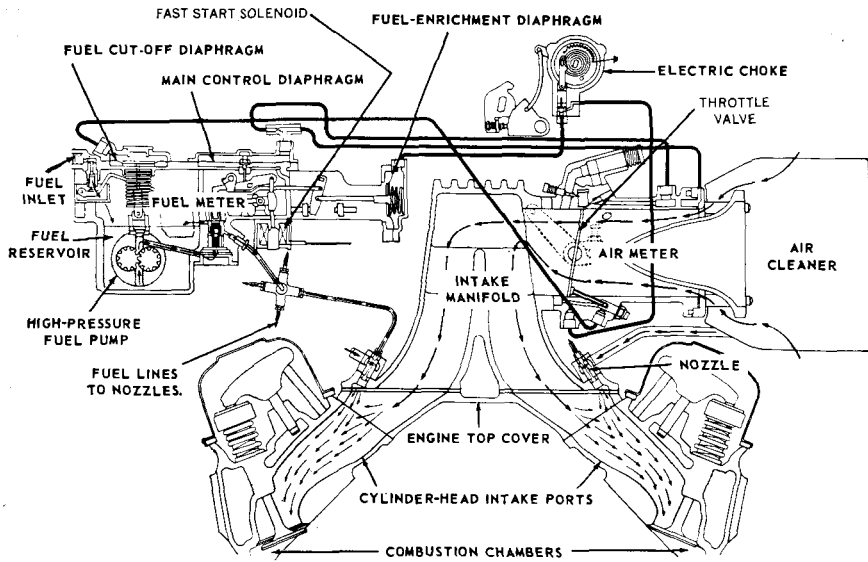
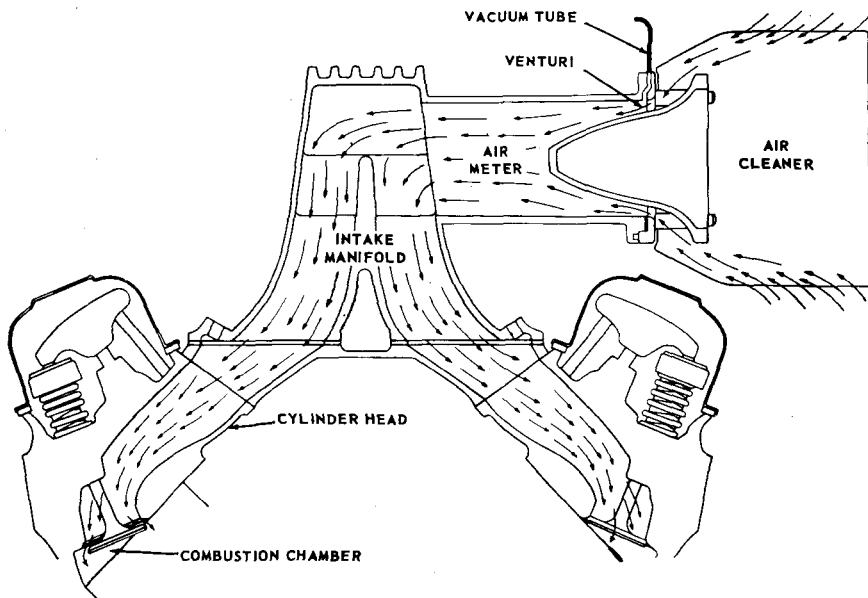

FIG. 6-4. Sectional view of complete fuel-injection system. (Chevrolet Motor Division of General Motors Corporation)
FIG. 6-5. Air intake of fuel-injection system. (Chevrolet Motor Division of General Motors Corporation)
Other mechanisms enrich the mixture for acceleration, warm-up, hill climbing, and so on. Figure 6-4 is a sectional drawing of the complete system.
§95. Air intake The air intake of the system is shown in Fig. 6-5. The amount of air that enters is controlled by the throttle valve (see Fig. 6-4) which is located in the throat of the air meter. The throttle valve is connected by linkage to the accelerator pedal, just
3. *Other features.* To provide adequate fuel quickly during engine cranking, a fast-start solenoid (see Fig. 6-4) is included in the fuel-meter assembly. This solenoid is actuated as the cranking motor operates (it is connected to the control circuit). The solenoid then operates linkage to the ball check below the plunger in the fuel meter to push the ball check off its seat so that the fuel pump can instantly deliver fuel to the injection nozzles. A fuel cut-off diaphragm (Fig. 6-4) comes into operation when coasting down hill or decelerating to shut off fuel flow. This diaphragm is connected by a tube to the air meter. When a high vacuum is produced in the air